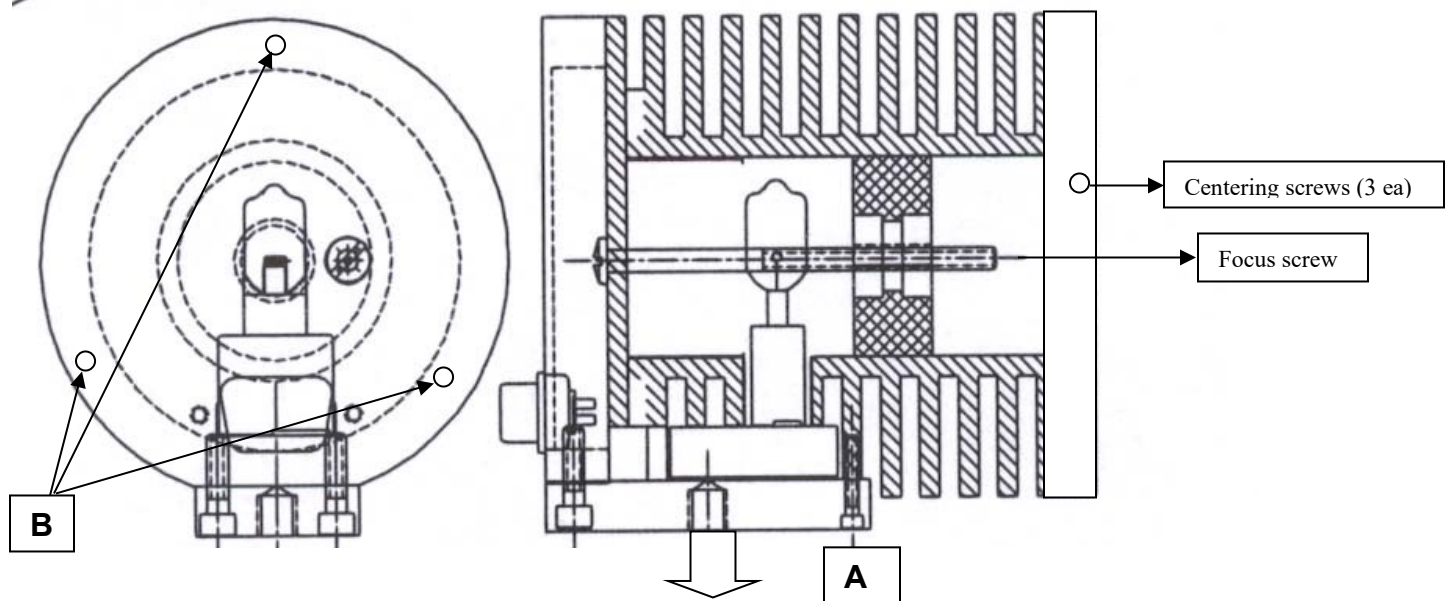

Fig 1.
The ASB-W-030 is a complete light source assembly with a tungsten-halogen lamp that emits in the 300 to 2600 nanometer (nm) wavelength region. It has been designed to transfer the maximum possible illumination from a tungsten-halogen lamp to Digikröm monochromators. The tungsten-halogen lamps of the ASB-W-030 are near blackbody sources of light with fused silica envelopes around the lamp filaments. Figure 1 shows blackbody spectral distributions at various color temperatures in Kelvin (K). The ASB-W-030 spectral distributions resemble those of Figure 1 out to about 2600nm, beyond which the transmission of the fused silica lamp envelope limits the output.
1. Remove the top screw from the lamp mount base (**Fig1.A**) and three bottom screws (**Fig1.B**) and gently pull the assembly from the housing.